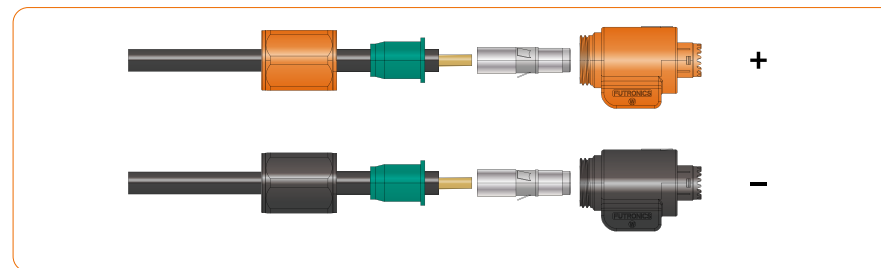

Figure 4-18
- 3) Disassemble the connector in the accessory bag, as shown in Figure 4-18: